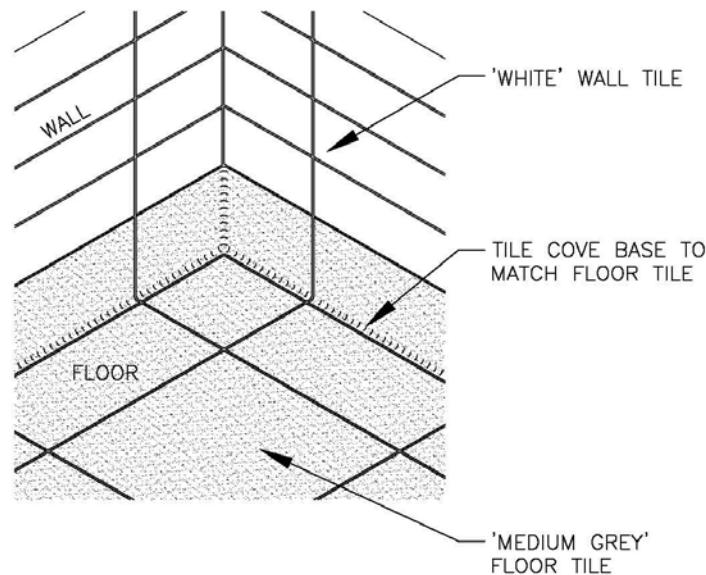

Figure 1.9.3C
- F. Restroom tile cove base will be provided and match floor tile and extend up the wall as shown in *Figure 1.9.3C*. Non-tile cove bases and cove strips are not acceptable.